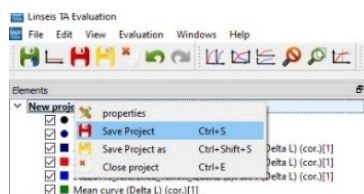

Figure 38. Save project.
8. Save the project used to create the mean curve, by selecting the project under the elements window and clicking on save project, see Figure 38.